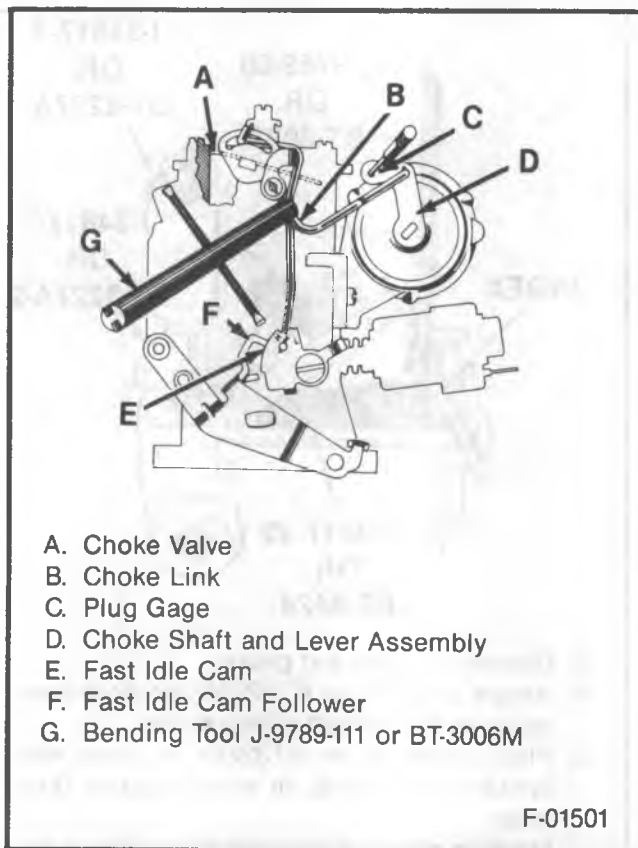

Figure 39 - Choke Stat Lever Adjustment
Adjust (Figure 39)
- If gage does not pass freely through both holes, bend choke link at point shown in Figure 39 to align the holes.